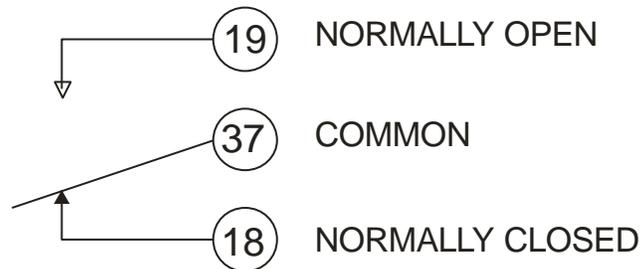

Figure 6. Form C Relay (0) contacts
The Form C relay has a common, normally open (NO) and normally closed (NC) contact. Figure 6 shows the schematic for a Form C relay.